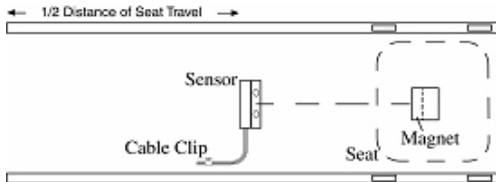
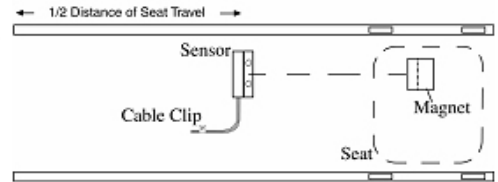
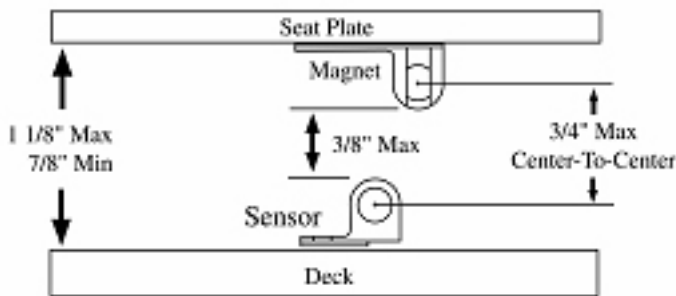

FIGURE 1a: SENSOR AND MAGNET INSTALLATION
FIGURE 1b: SENSOR AND MAGNET INSTALLATION
FIGURE 2: SENSOR AND MAGNET SPACING
- Refer to FIGS 1a, 1b. Note the position of the sensor – it should be close to the center of the seat travel and it MUST be perpendicular to the length of the shell. It is not necessary for the sensor and magnets to be centered between the rails as shown in Figure 1a. They may be positioned off center as shown in Fig 1b. It is essential however that the magnet passes directly over the sensor.
PLEASE NOTE: The sensor must be installed at the CENTRE of the seat travel. If the sensor is too close to either end of the seat travel, the COX BOX may indicate ONE-HALF the correct stroke rate. It is essential that the holes in the magnet assembly pass directly over the holes in the sensor. The dashed horizontal line in each figure indicates the correct alignment. If the sensor and magnet are installed offset from the centerline of the seat as in Fig. 1b, the holes of the magnet assembly MUST still pass directly over the holes of the sensor.
Because the distance between the seat plate (to which the magnets will be attached) and the deck (to which the sensor will be attached) varies considerably from shell to shell, you should start by measuring this distance. Refer to FIG 2.
- If the distance measured as in FIG 2 is between 7/8" and 1 1/8" you may mount the sensor and magnet with no further adjustment.
- If the distance measured as in FIG 2 is GREATER than 1 1/8" then you will need to make a spacer of appropriate thickness. You may choose to shim the sensor or the magnet, whichever is easier. DO NOT use any magnetic material for your shim.
- If the distance measured in FIG 2 is LESS than 7/8" then you will have to remove material from either the seat or the deck OR try mounting the magnet on the upper side of the seat plate.
5. Return the stroke seat to its slide and check that the clearance between the magnet and sensor is no more than 3/8" (refer to FIG 2). Check also that the magnets pass directly over the sensor (refer to FIGS 1a, 1b).